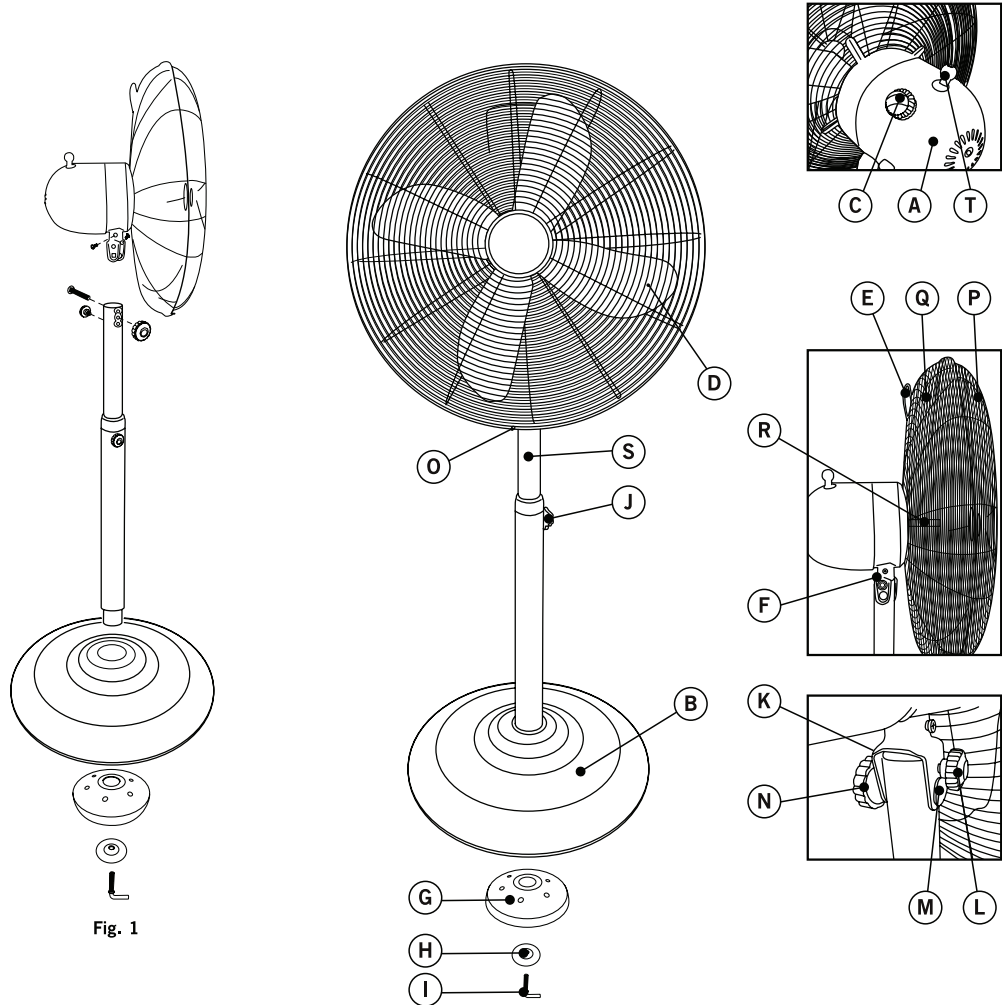

Fig. 1
- Fit the adjustable column (S) into the hole in the base support (B), place the counterweight base (G) underneath the support base (B) and secure with the "L" shaped screw (I) inserting the washer (H) between the base and "L" shaped screw (I) (Fig.1)
- Fix the motor (A) to the adjustable column (S) through the support motor (F) and fix in place with the motor body screw fastening (K) and the motor body fastening lever (L) making it coincide with the appropriate holes. Next introduce the incline adjustment screw (M) into the appropriate hole and tighten it with the inline adjustment lever (N).